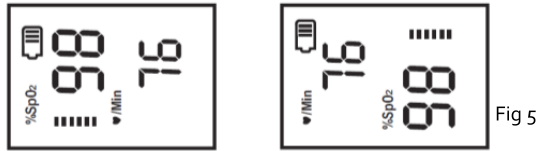

Fig 4
- Put one of the fingers into rubber hole of the oximeter (it is best to insert the fingers thoroughly) with nail surface upwards (Fig.4), then release the clamp.
The display interface of "LED" can rotate 180 degrees after pressing the button for less than 0.5 seconds. It is shown as below (Fig 4)